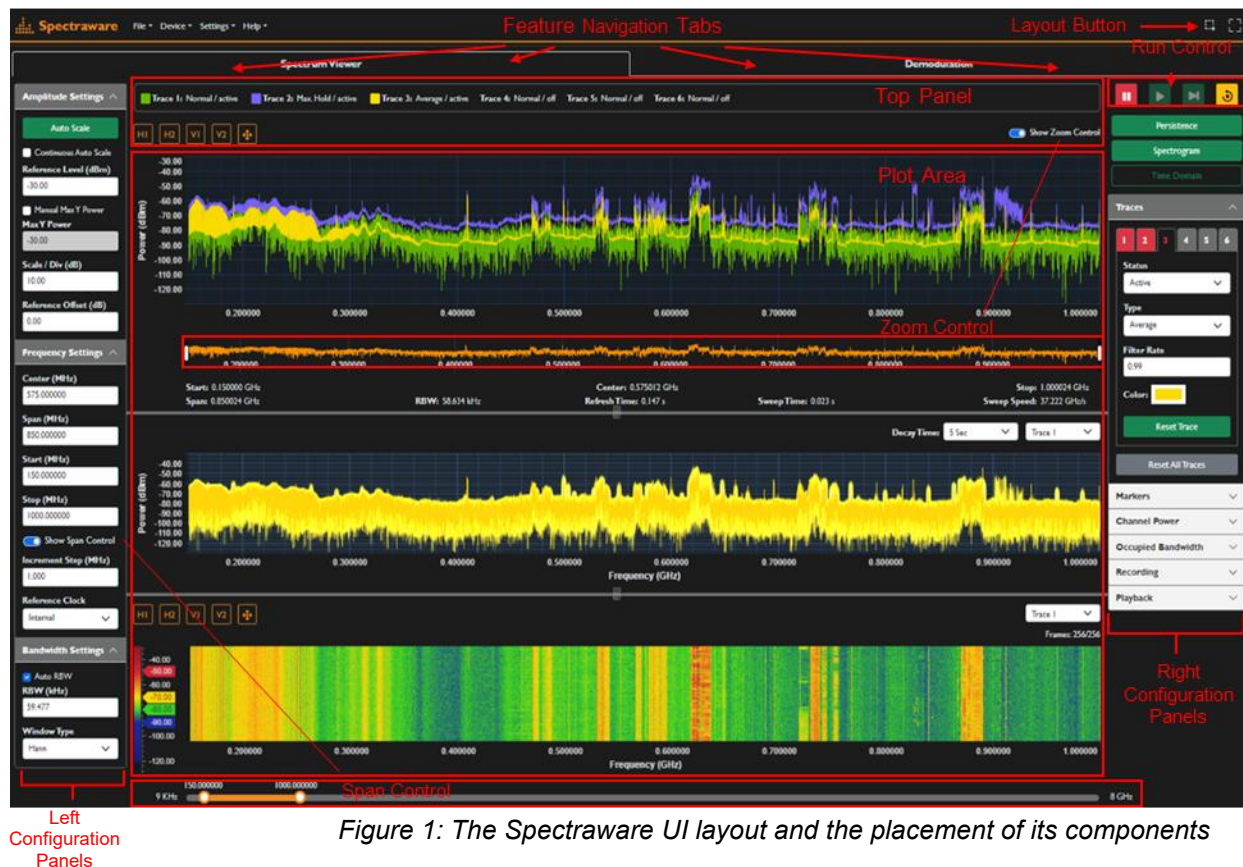

Figure 1: The Spectraware UI layout and the placement of its components
This section provides an overview of the user interface (UI) layout and the placement of its components, as illustrated in Figure 1.
The application is centered around its main Plots display area. The **Spectral Plot** (as illustrated in Figure 1, for example) shows the processed power spectrum of the captured signal as a function of frequency, in either real-time or playback mode. When available for a Spectral plot and enabled from the top panel, the **Zoom Control** offers a convenient